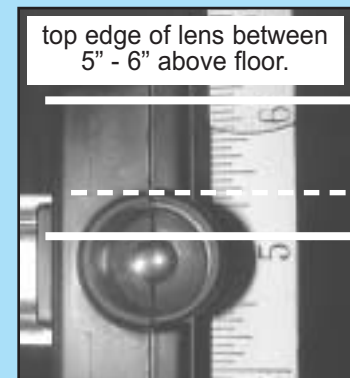

FIG. 3-9 Check lens height.
- Insure that tops of lenses are between 5"-6" above the floor (Fig. 3-9). The brackets are flexible and can be adjusted slightly if needed.